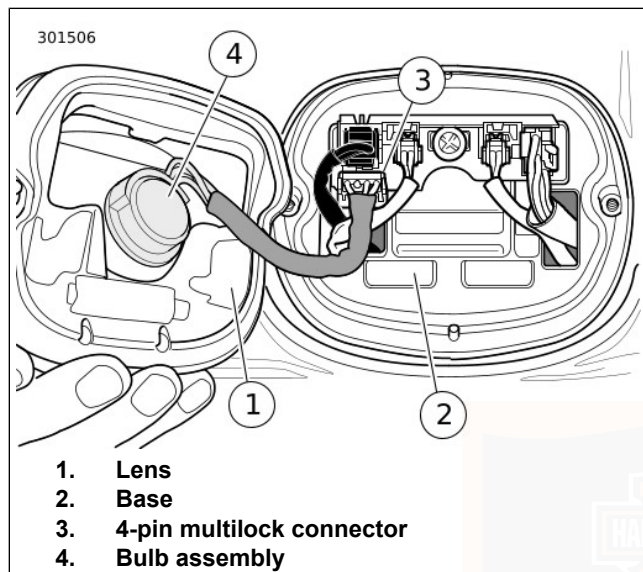

Figure 68. Tail Lamp Assembly: Standard Style
1. See Figure 68. Make certain ignition switch is turned off.